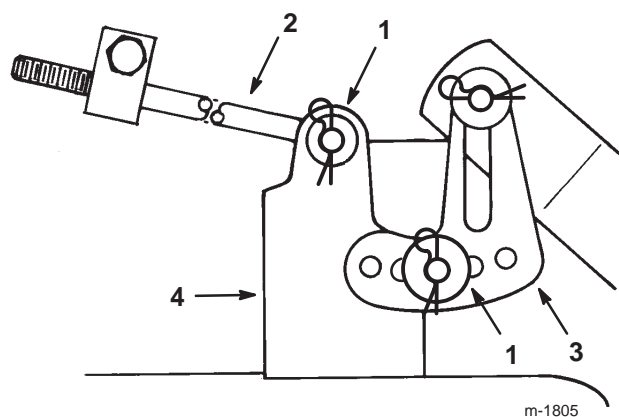

Figure 49
9. Remove the hairpin cotter and washer from the leveling bracket (Fig. 49). To level the blades, reposition the leveling bracket in a different hole and install the washer and hairpin cotter (Fig. 49). A front hole lowers the blade height and a rear hole raises its height. Repeat this procedure on the opposite side of the mower.